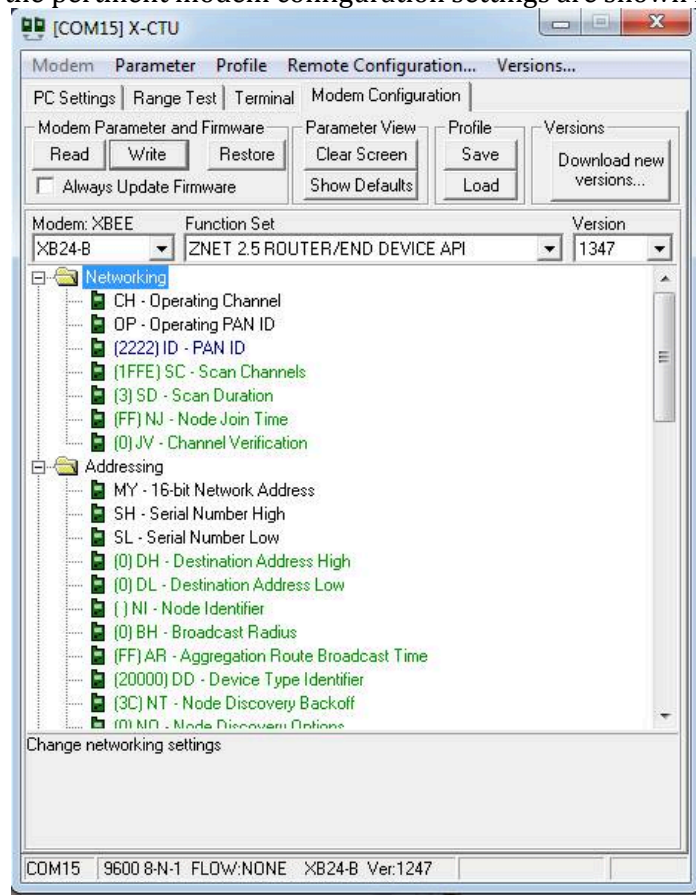

Figure 1: Xbee Modem Configuration
1. The XBee communicates at 9600 baud with 16-bit Network Address 0 (coordinator) on PAN ID 2222. Most of the pertinent modem configuration settings are shown in Figure 1.